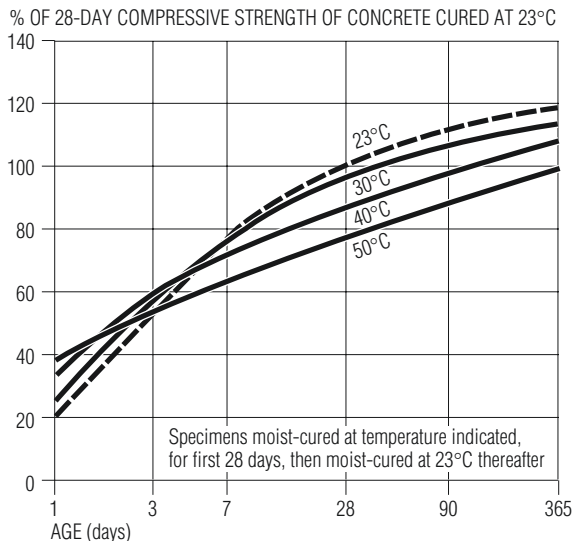

Figure 4: Effect of high curing temperatures on concrete compressive strength
- **Concrete temperature** Hot weather conditions may accentuate the temperature rise in concrete caused by the heat of hydration. In large sections thermal gradients through the element may cause thermal cracking. Laboratory tests show that sustained higher temperatures significantly influence the compressive strength gain of hardened concrete **Figure 4**. While increased concrete temperatures may result in an increase in the early rate of strength gain, in the longer term, concrete cured at lower temperatures will achieve higher ultimate strength.